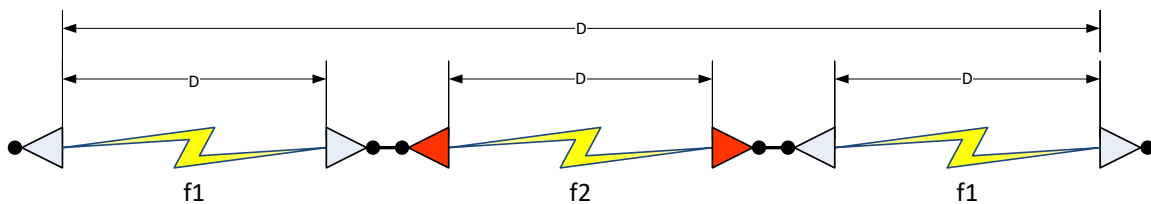

Figure 4 MN-WW60-G-AD MagiNode™
- 3- MN-WW60-G-AD (Figure 4). Building block of 1 Gbps Data Pipeline. Used for distances of 700m in conjunction with MagiRouters™ to provide backbone to MagiNet™.